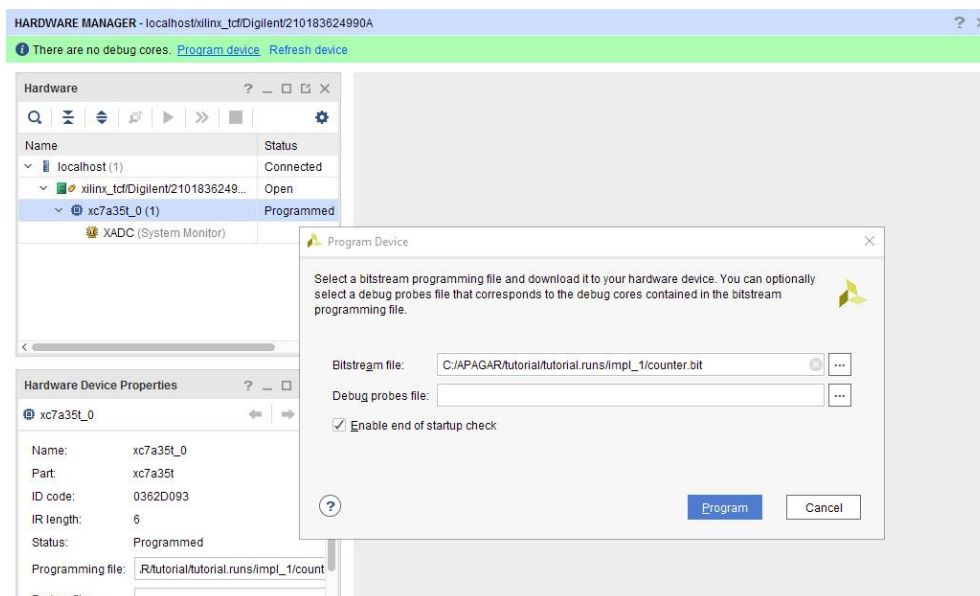

Figure 38
9. In the new **Program Device** window, check that the configuration file is the **counter.bit** file and click **Program** (Figure 38)